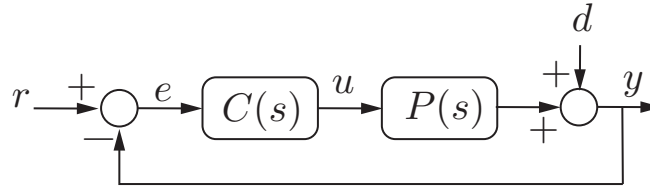

Figure 2: Closed loop control system
The theoretical model of a closed loop system is shown in Fig. 2 where  $C(s)$  is the controller and  $P(s)$  is the plant transfer function.
(b) **[5 Points]** Assume the transfer function  $P(s)$  in Fig. 2 has the following form,
- [3 Points ] In your original control system of Fig.2, now introduce a disturbance,  $d = 0.5 \sin(2\pi 10 t)$  that is present at all times.